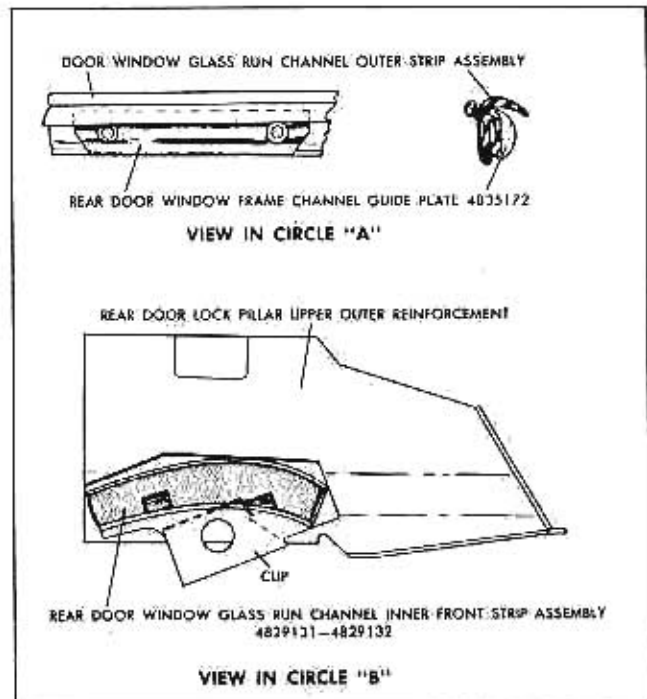

Fig. 2-44 Detail of Fig. 2-43
3. The rear door window-glass run channel inner front strip assembly is secured by an integral clip onto the rear door lock pillar upper outer reinforcement and may be installed through the large access hole with window in the partially lowered position (see view in circle B Fig. 2-44). It is important that the
indentation in the strip assembly nest in head of reinforcement. To install the rear door window frame channel guide plate, the door window lower stop rubber bumper must first be removed. This part is installed over the rear door window glass run channel outer strip assembly and secured to the door outer panel return flange by two $\frac{3}{8}$ " long flat headed self-tapping screws (see view in circle A Fig. 2-44). Holes for the screws may or may not have been drilled during assembly. If it is necessary to drill holes, dimensional specifications are $\frac{1}{8}$ " diameter.